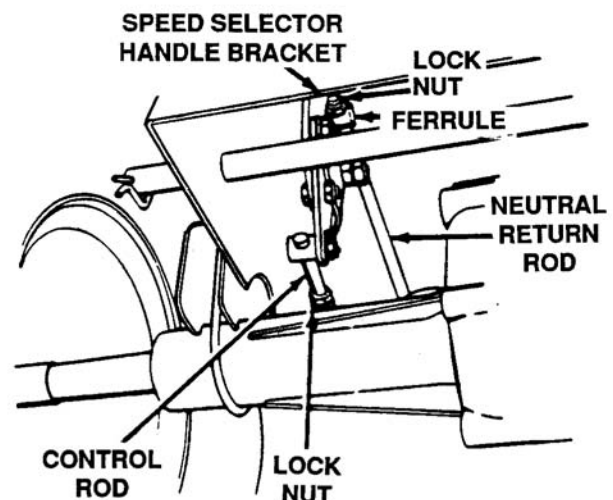

Figure 7-61. Adjustment of Neutral Return Rod
1. Loosen the lock nut on the neutral return rod. Disconnect the ferrule on the neutral return rod from the speed selector handle bracket. See Figure 7-61.